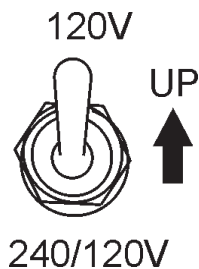

Figure 15. Full Power Switch (Up)
- Place** the **full power switch** (Figure 15) in the **"120V"** (Up) position.